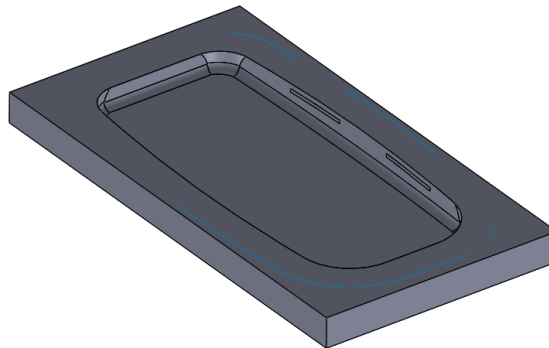

Figure 21-61 Cavity displayed after hiding the cover
- Extract the cavity, refer to Figure 21-61.
8. Add the remaining features to create the final cavity plate, refer to Figure 21-61.